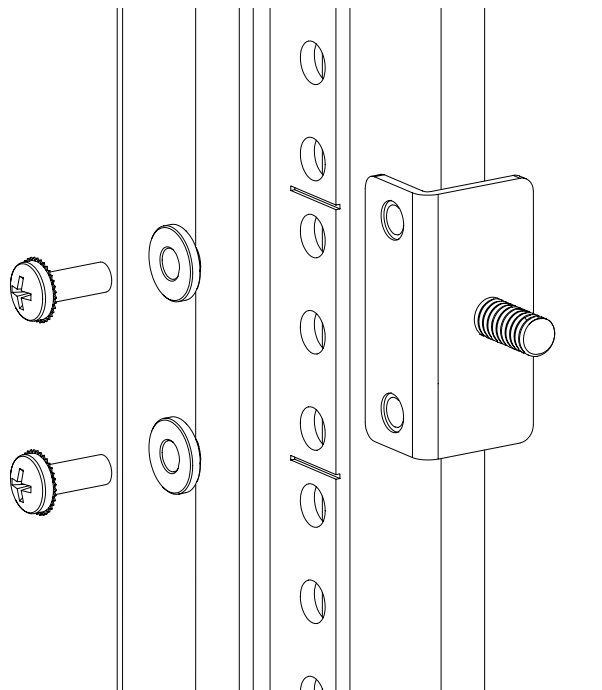

Figure 5: Installing the rear mounting brackets (HP System/e rack-left rear upright)
- For an HP System/e rack, install each of the two rear mounting brackets with two #10-32 x 1/2-inch Phillips pan-head screws and two #10 alignment washers as shown in Figure 5.